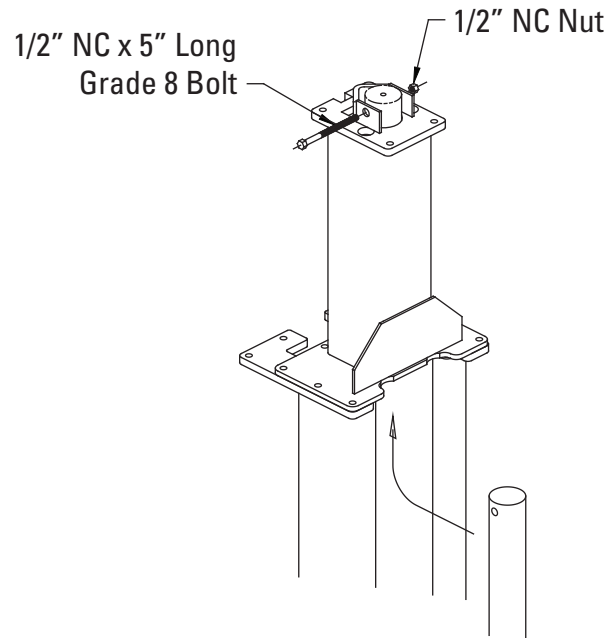

Figure 6
- J. Install the cylinders in the legs by attaching them to the Uprights with the 3/4" x 5" Grade 8 bolts and nuts, Figure 6. The cylinder ports should be positioned pointing towards the center of the lift.